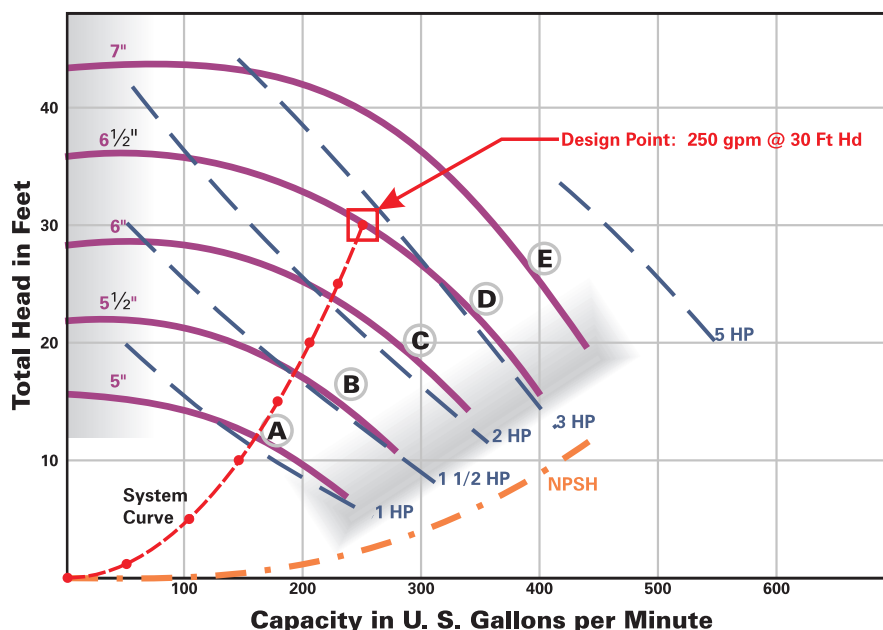

Figure 5.16: Typical Pump Curve
2. Do not select the pump either near the shut-off head or on the flat portion of the curve near the left side. Also avoid the right side of the pump curve. At the end of the pump curve on end-suction pumps, the pump can easily cavitate, causing noise and severe damage to the impeller. These areas are shown in gray in Figure 5.16.
3. See Figure 5.16 for a typical system curve sketched onto the pump curves.